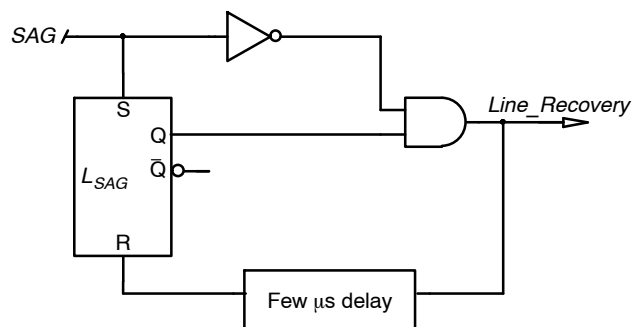

Figure 20. “Line_Recovery” Signal
- When the soft-stop sequence ends, the PFC stops operating until the T_{BUV} delay has elapsed (515 ms typically). However, if the BUUV protection trips during a line sag condition, the T_{BUV} delay is bypassed and operation immediately resumes when the line recovers. The wakeup information is provided by signal “*Line_Recovery*” generated by the line-sag block (see Figure 20). This enables a rapid operation recovery when the line fault is over.
When a line-sag condition is detected, the NCP1618 starts a soft-stop sequence to gradually discharge $V_{CONTROL}$ down-to-zero and hence, to smoothly stop operation. It also disables the CCM mode to reduce more rapidly the power delivery during the line-sag period. When the line recovers, it is required to restart the operation as soon as possible and in a clean manner. Signal “Line_Recovery” of Figure 20 provides the wakeup information.